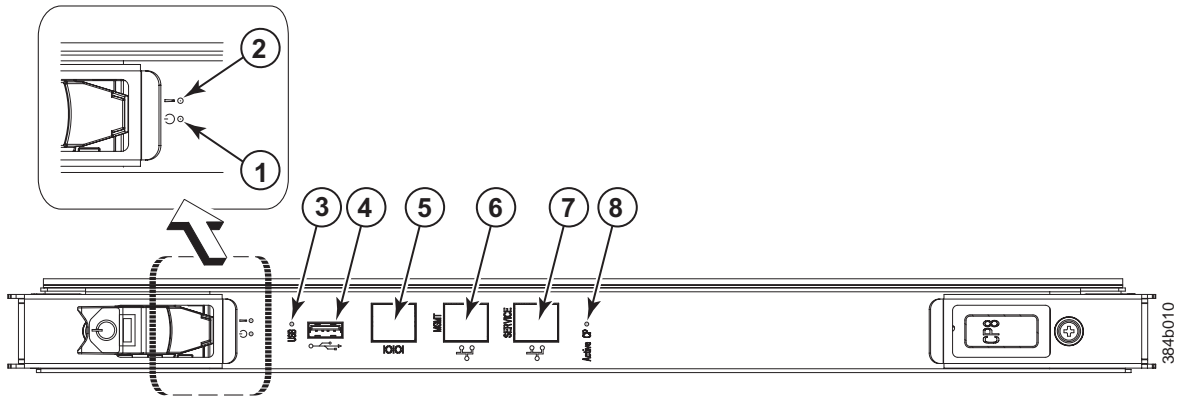

Figure 25. Control processor blade (CP8) LEDs
1. Check the LED indicators on the CP blade (see Figure 25 on page 52). The LED patterns may temporarily change during POST and other diagnostic tests. For information about how to interpret the LED patterns, see Table 11 on page 52.
Figure 25 on page 52 identifies the control processor blade (CP8).